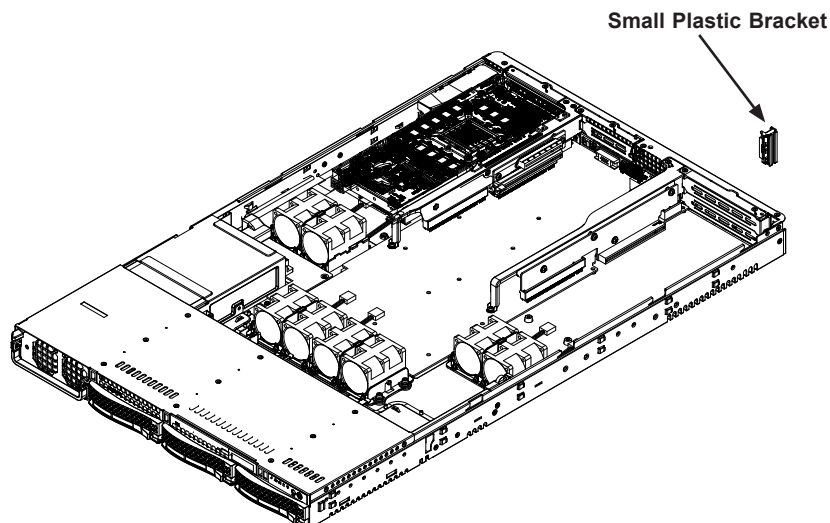

Figure 3-8. Plastic Bracket to Secure the Rear Plate
3. Remove the PCI slot shield in the rear of the chassis. Remove the small plastic bracket from the right, rear corner of the chassis (Figure 3-8).